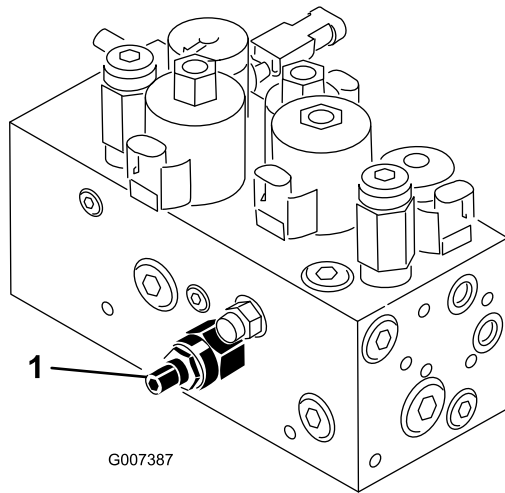

Figure 56
The cutting unit lift/drop circuit is equipped with a flow control valve (Figure 56). This valve is preset at the factory at approximately 3 turns open, but an adjustment may be required to compensate for differences in hydraulic oil temperatures, mowing speeds, etc. If an adjustment is required, proceed as follows:
1. Raise the seat and locate the flow control valve for the center pull frame (Figure 56) which is located on the side of the hydraulic manifold.